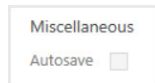

Figure 3.5 Auto Save
2. In the **Feature Settings** section, select the **Auto Save** check box (Figure 3.5).